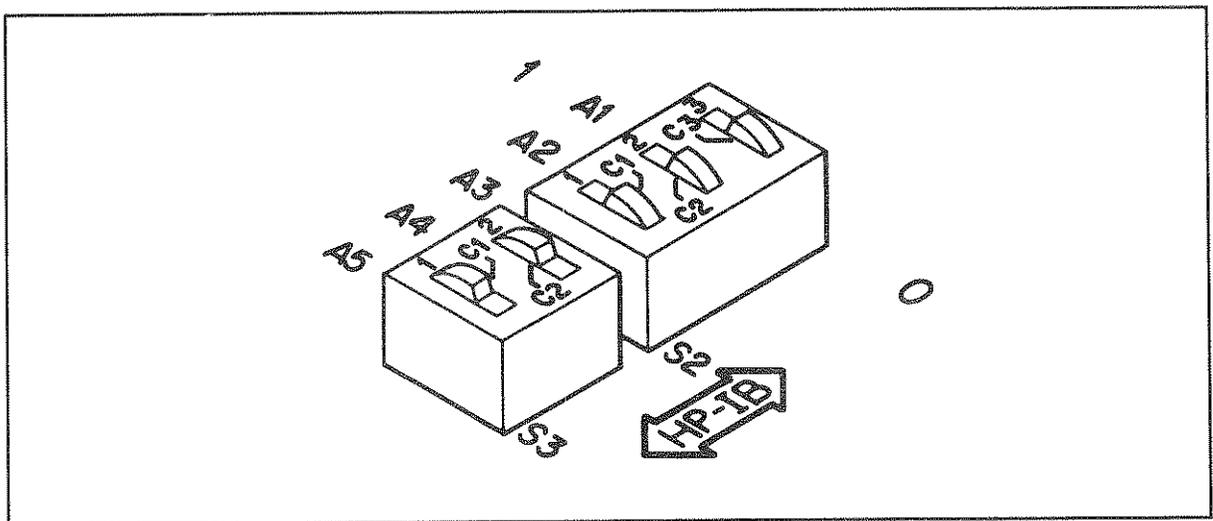

Figure 2-3. HP-IB Address Switch Location and Settings
- c. Locate the HP-IB address switches S2 and S3 on the Microprocessor/Memory/HP-IB Assembly — A11 (see Figure 2-3).
- d. Use a pointed object (such as a pencil) to set the switches to the desired HP-IB address in binary (see Figure 2-3). The five switches are labeled A1 through A5, where A1 is the least significant address bit and A5 is the most significant address bit. Pressing the right-hand side of the switch (as viewed from the front of the instrument) “sets” the corresponding address bit (bit = 1), while pressing the left-hand side “clears” the bit (bit = 0). Setting all of the address bits to “1” will result in an invalid HP-IB address (31 decimal). In this case, an HP-IB address of 30 (decimal) is stored in memory once the instrument is powered up.